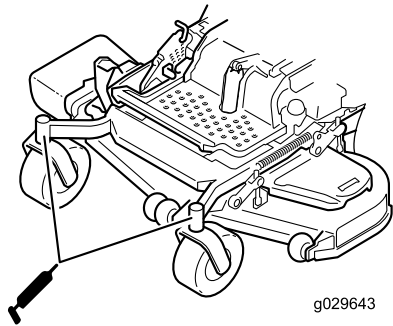

Figure 46
10. Install the hex plug and dust cap (Figure 46).